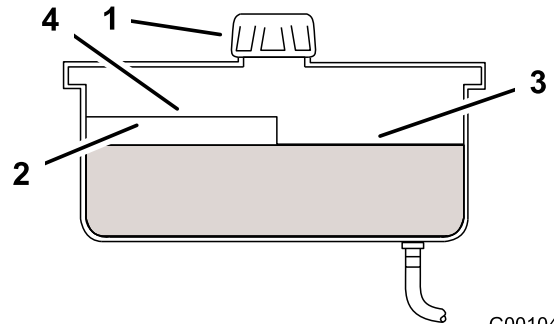

Figure 63
- Clean the area around filler neck of hydraulic tank (Figure 63).
- Remove the cap from the filler neck. Look inside to check if there is fluid in the reservoir (Figure 63).
Note: The fluid level should be to the top of the hot level of the baffle, when the fluid is hot (Figure 63).